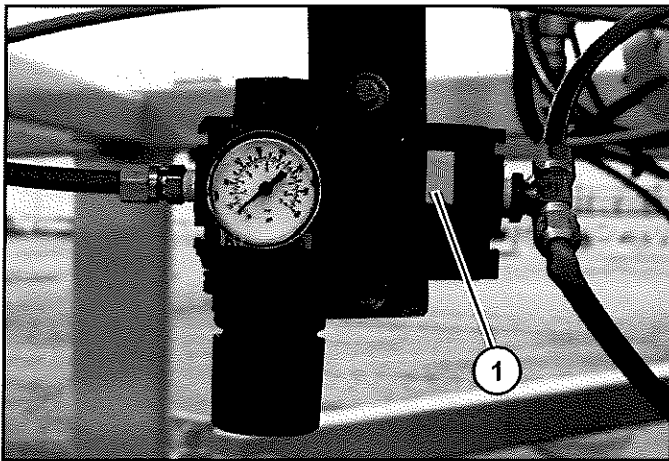

Figure 7
1. Deflate the air springs by turning the lever (Item 1) (Figure 7).